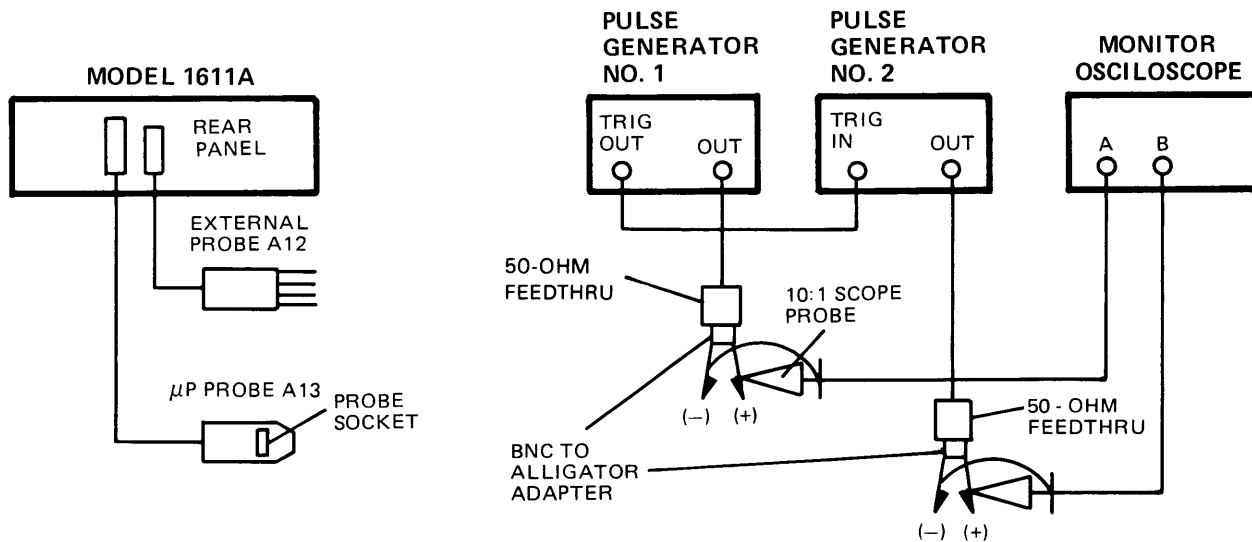

Figure 4-4. Data Test Setup
- a. Connect test equipment as shown in figure 4-4.